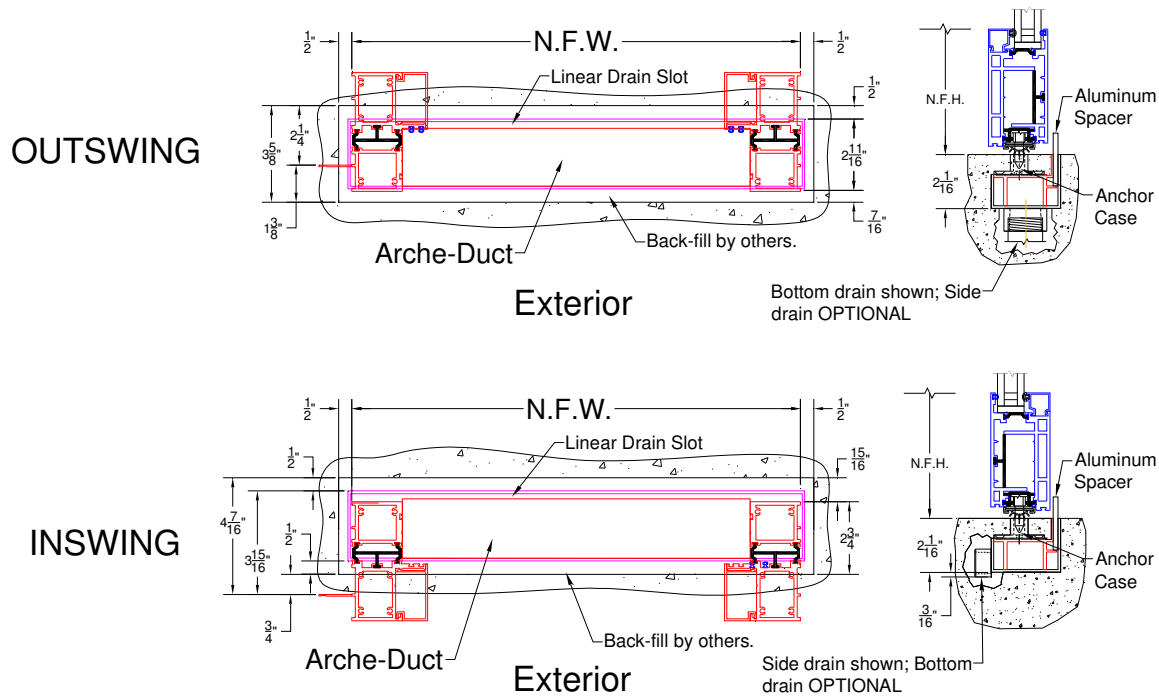

Figure F1:
1. The Arche-Duct sill option requires a flooring block out (Figure F1). If Arche-Duct tabs are present add 1-1/2" to exterior / interior block out. These tabs are for fastening the drainage system to the substrate.
2. After panel installation, if shoot bolts are present, align strike with shoot bolts (Figure F1/F2), mark location, drill holes using #25 drill bit, fasten in place with 1 inch #10 screws provided.